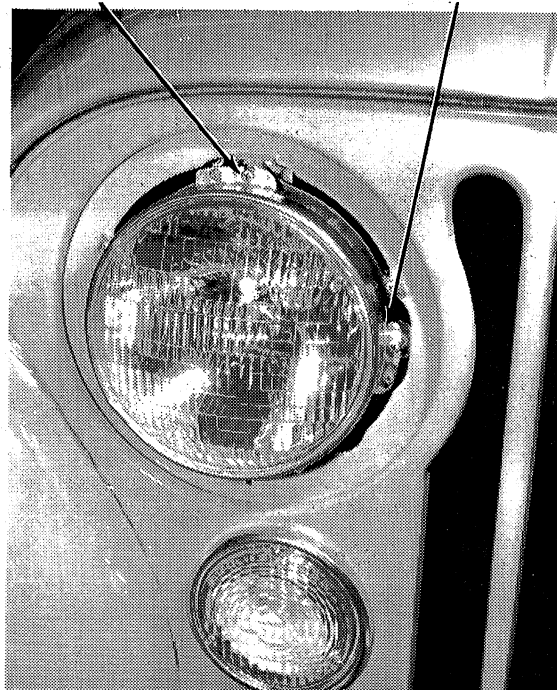

Fig. 3R-2 Headlamp Adjustment—Typical
(14) Turn vertical aiming screw counterclockwise until lamp beam is considerably lower than horizontal reference line on screen (fig. 3R-2).
(15) Turn screw clockwise until top edge of high intensity area is even with horizontal line.
(16) Turn horizontal aiming screw counterclockwise until beam is off centering tape.
(17) Turn same screw clockwise until left edge of high intensity area is 2 inches to right of lamp centerline (fig. 3R-1).
(18) Cover lamp that has been aimed and aim other lamp using same procedure.